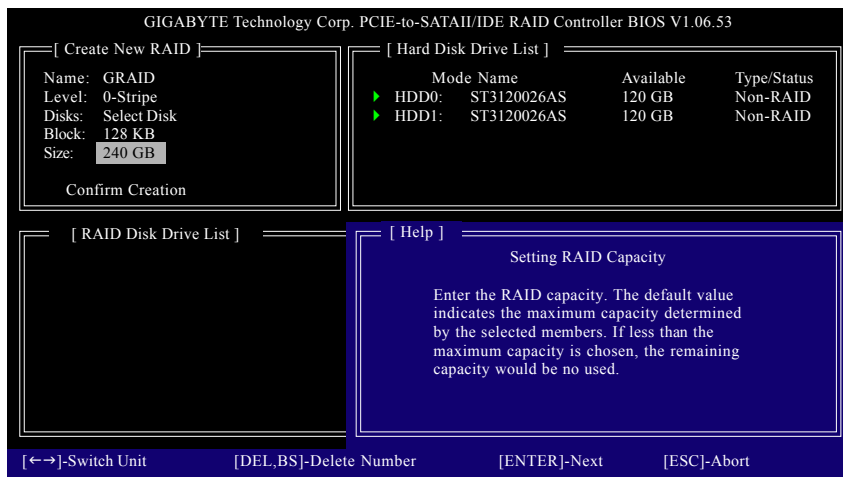

Figure 8
- Set Array Size:** Under the **Size** item, type the size of the array (Figure 8), and press ENTER.